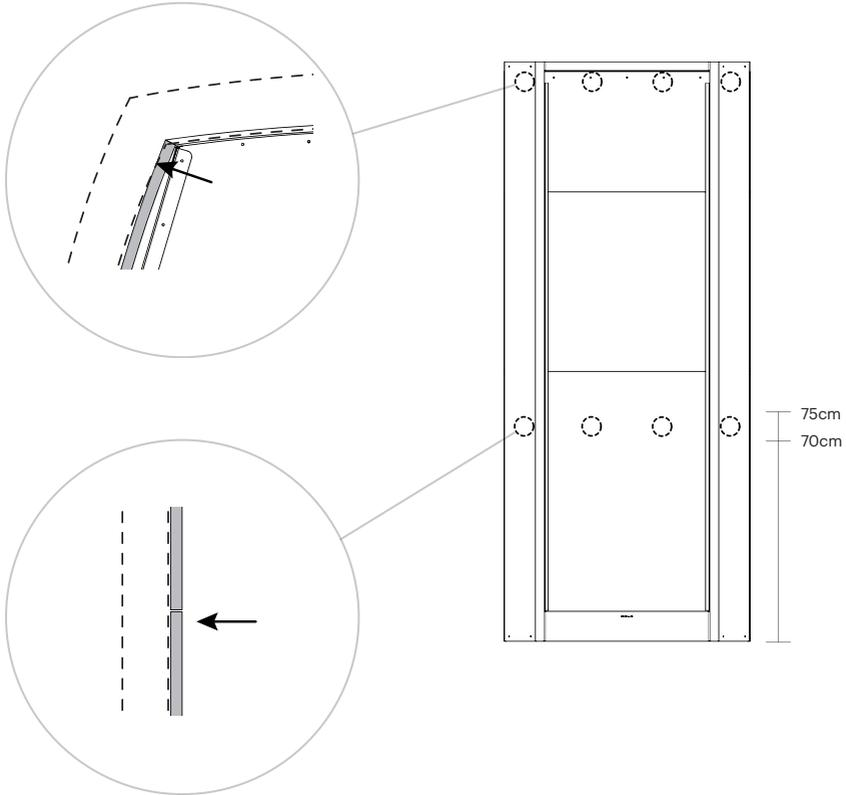

figure 8
6. Use a single wall panel with a minimal thickness of 9mm or horizontal slats as structural support for the shower cabin to be able for it to be fixed to the wall. Alternatively use a metal bracket for a stronger hold. Mount the upper section firmly at the 4 indicated screw positions (fig 8), followed by the 4 in the middle.